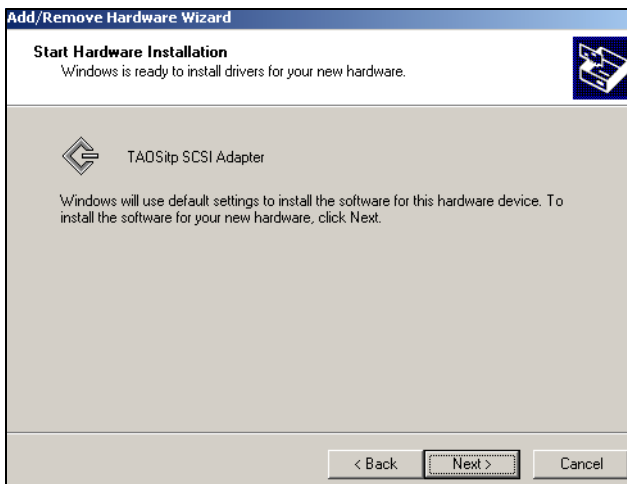

Figure 7-31 The Start Hardware Installation window, click Next.
31. The Add/Remove Hardware Wizard is now ready to install the driver. Click **Next** (Figure 7-31).